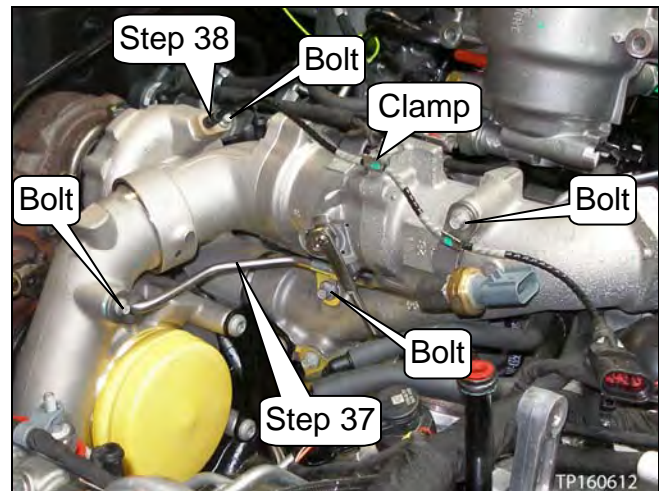

Figure 49
37. Remove the three (3) bolts, and then remove the low pressure turbocharger boost pressure sensor tube (see Figure 49).
38. Unbolt, unclamp, and then remove the high pressure turbocharger speed sensor (see Figure 49).